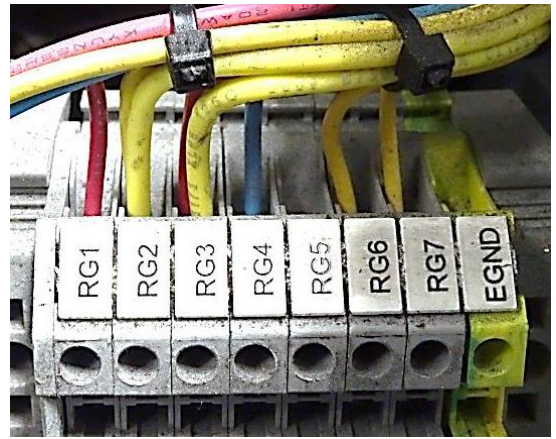

Figure 8: Terminal Block Wiring, Return Valve Coil Wire to RG3
- b. If the Gripper® does not cycle (stays latched), turn test switch “OFF” and return dump valve coil wire to RG3. (See Figure 8) Confirm all terminals are tight. Continue to Step 14.